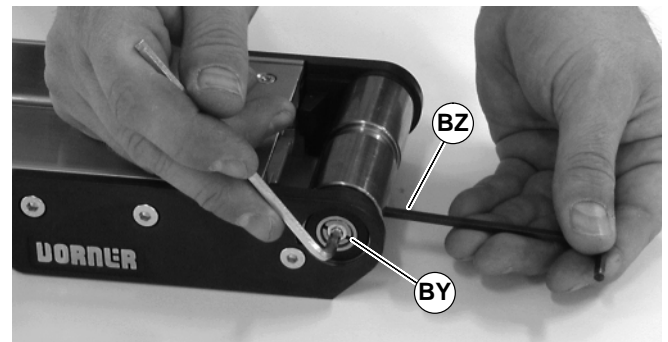

Figure 55
3. On both sides of pulley, use a 4mm hex-key wrench to tighten pulley taper screw (BY of Figure 55) to 8.5 Nm. Steady pulley with second hex-key wrench (BZ) inserted into pulley hole.